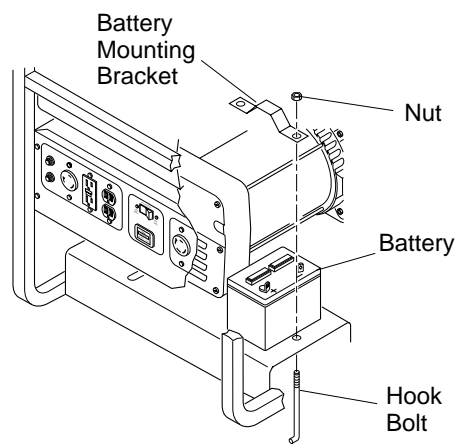

Figure 9 - Battery Hold-Down System (Model PGH7500IE Shown)
1. Secure battery to generator by battery hold-down system. This system consists of the battery mounting bracket, hook bolts, and nut (see Figure 9).